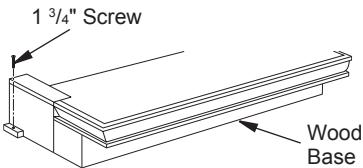

Figure 13 - Attaching Wood Base to Floor
10. Attach wood base to floor with two 1 3/4" black screws provided (see Figure 13). If the floor is concrete use anchor method (see *Attaching Wood Base to Solid Floor*, page 16).
15. Adjust assembly to remove any gaps. Attach remaining two 3" wood screws from hardware pack through openings inside of fireplace sides into the mantel. The openings are located at top behind the area for the black louvers (see Figure 13).